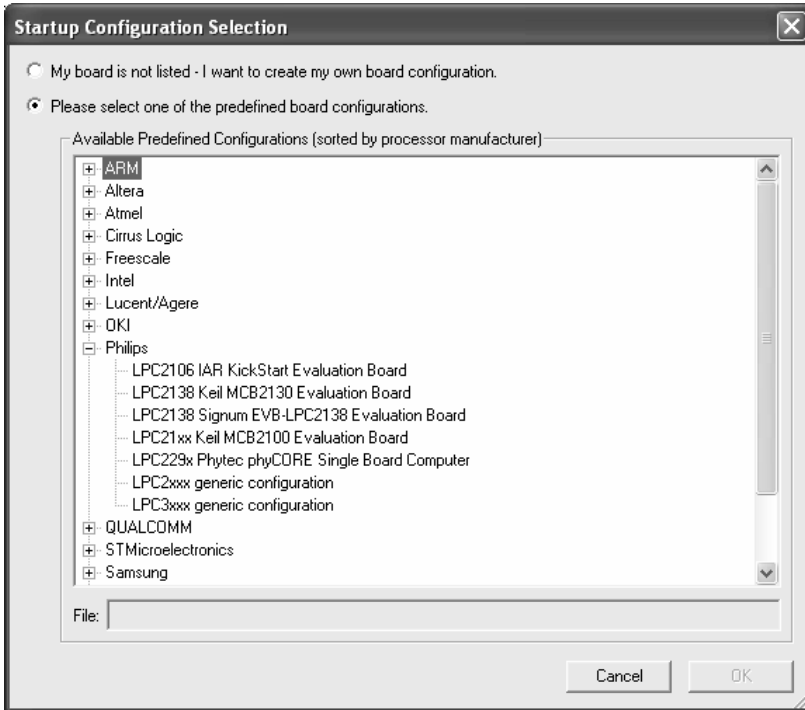

FIGURE 6 The Startup Configuration Selection window.
- The Startup Configuration Selection window displays a list of supported boards sorted by the manufacturer of the ARM device used on the board. (Figure 6).
7. If your board is not listed in the Startup Configuration Selection window (Figure 6), or if it requires custom settings, select: